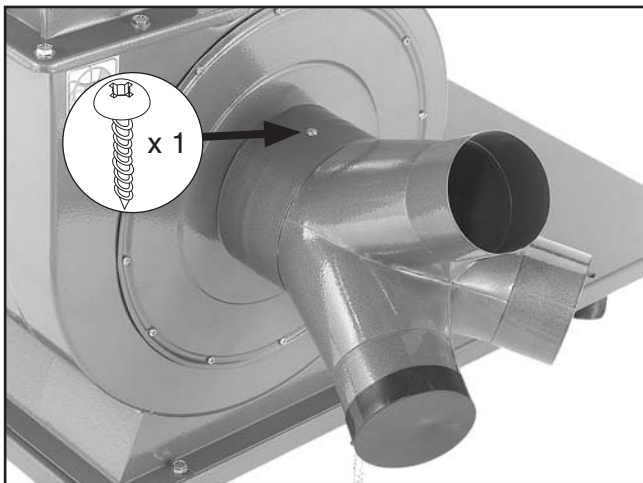

Figure 22. Inlet connector installed.
14. Insert the inlet connector over the impeller intake hole, then secure it in place with the #10 x $\frac{3}{8}$ " tap screw, as shown in **Figure 22**.